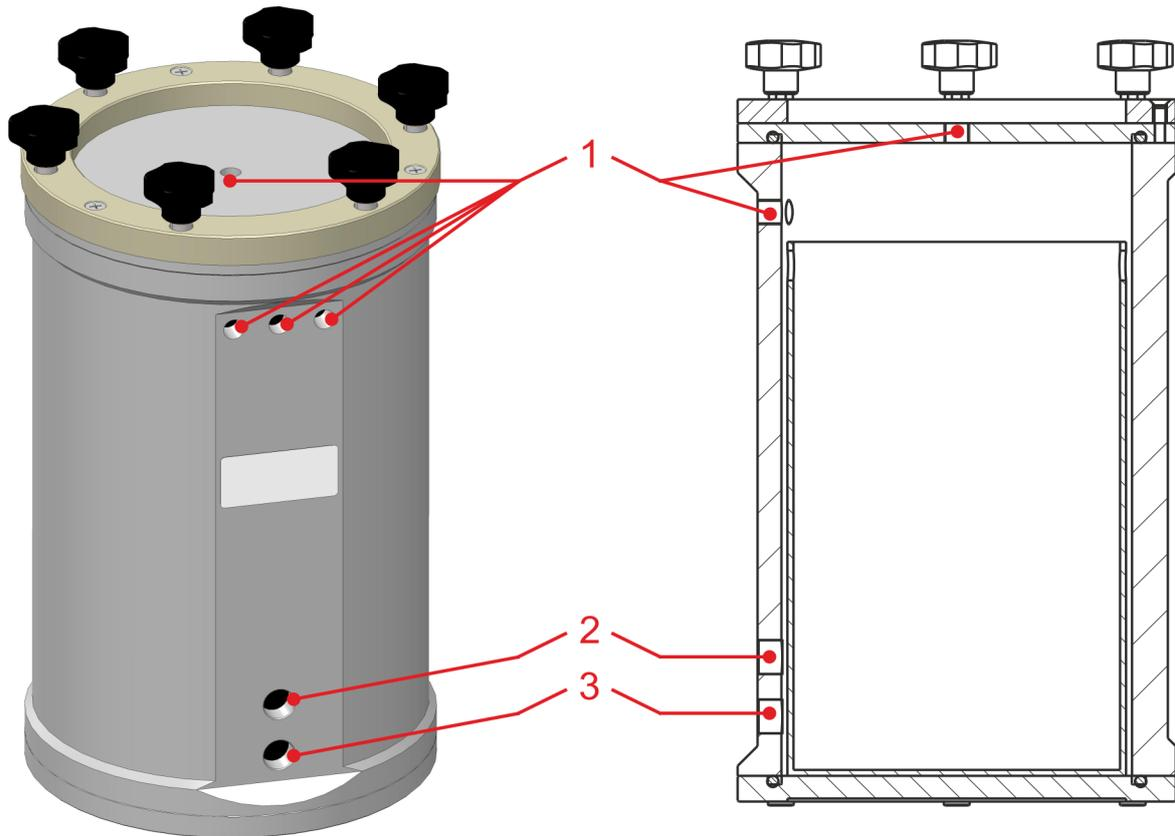

Fig. 3: Connections relevant to installation
- Product line (Fig. 3, item 1)
- Capacitive sensor for the empty signal (Fig. 3, item 3) and/or level pre-warning (Fig. 3, item 2).
- Compressed air line/pressure regulator with a pressure gauge (Fig. 3, item 1).